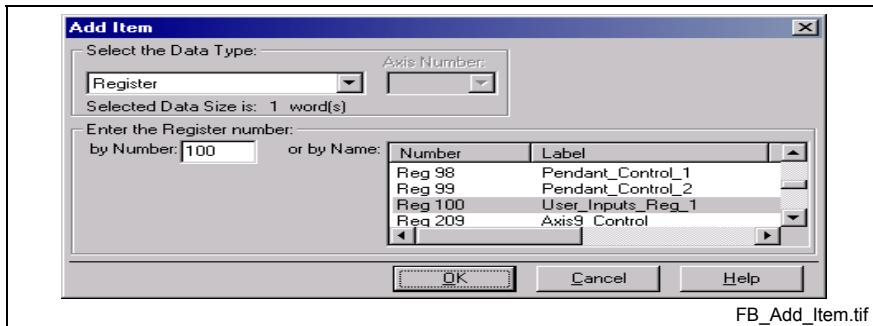

Fig. 7-138: Add Item to Cyclic Data
2. Click **Add**. The window in Fig. 7-138 appears. Select the Data Type (for example, Register).